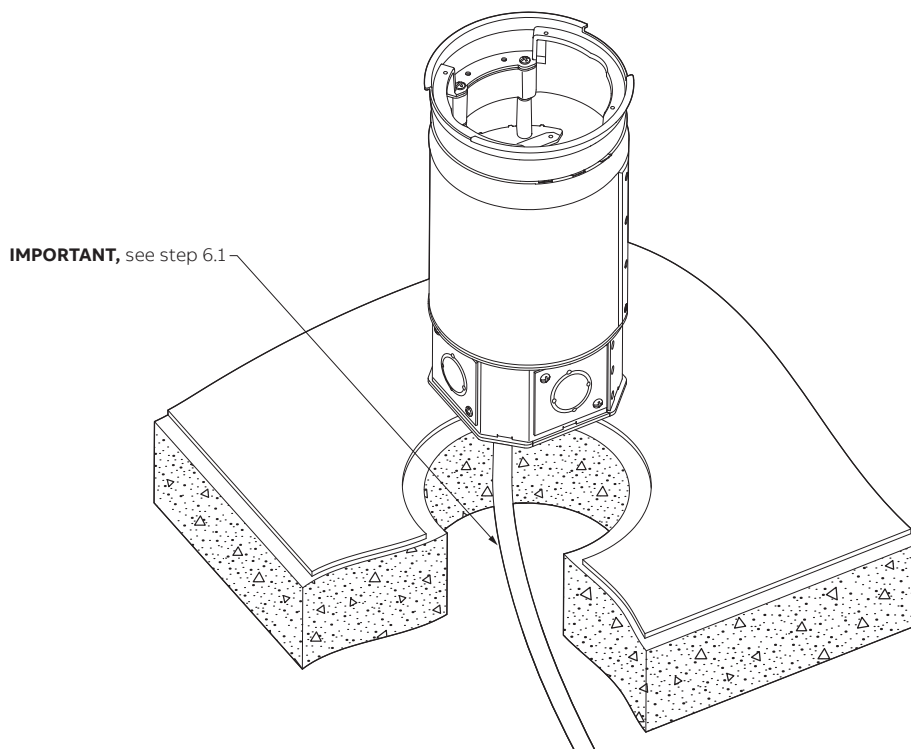

Figure 15
- 6.2 **IMPORTANT!** If flexible conduit is used, electrical connections can be made before inserting Poke-Through into hole. Flexible conduit **MUST** be connected to bottom junction box plate with appropriate conduit hub (See Figure 15). Install electrical devices in accordance with the instructions supplied with those products.